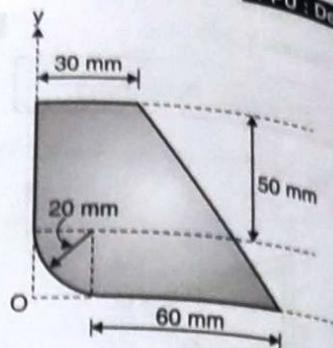

Fig. Q. 10
- Determine the coordinates of the centroid of the plane lamina shown in Fig. Q. 10.